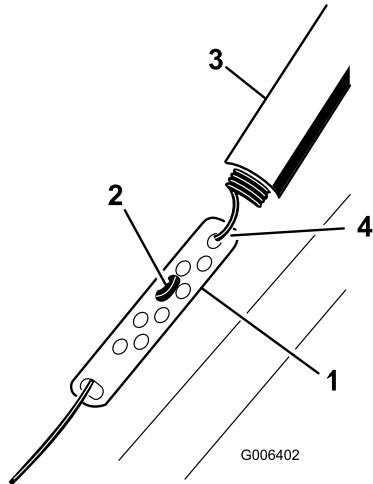

Figure 9
1. Slide up the spring cover and unhook the spring from the adjuster link (Figure 9).
2. Move the Z-fitting to a higher or lower hole on the adjuster link as needed to obtain the 1/16-inch to 1/8-inch (2 mm to 3 mm) gap between the control bar and the handle (Figure 9).